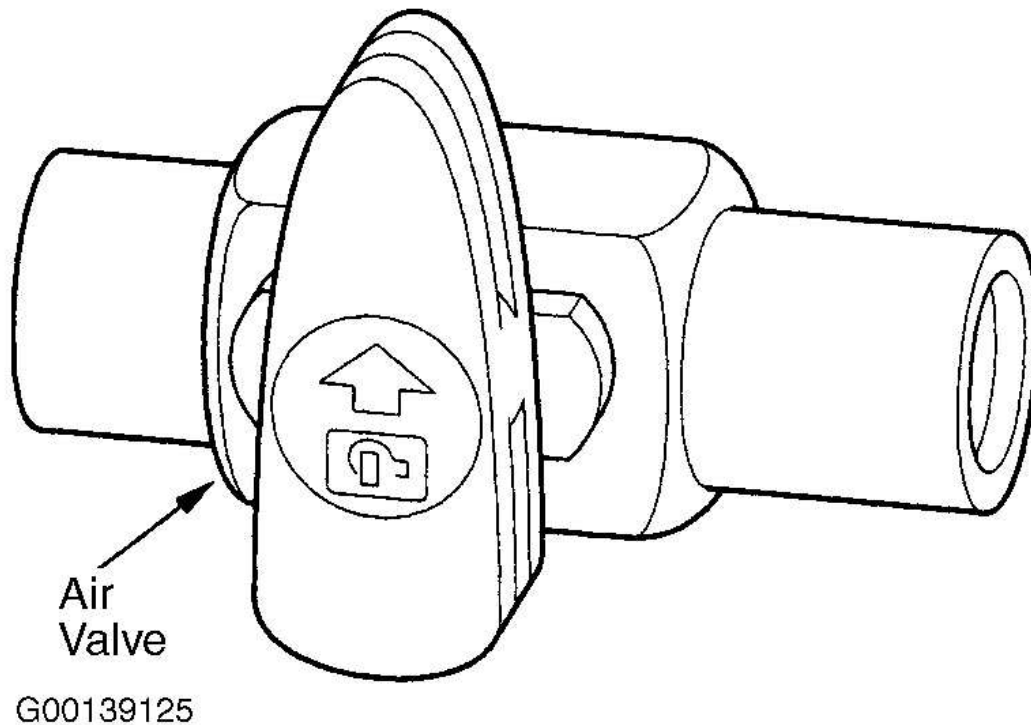

Fig. 3: Turning Air Valve Off
9. While flushing with the water and flushing fluid for 2 minutes, turn the air valve on for 5 seconds every 15-20 seconds to create a surging action. See **Fig. 3** . Air pressure should be 120 psi (827 kPa) maximum.